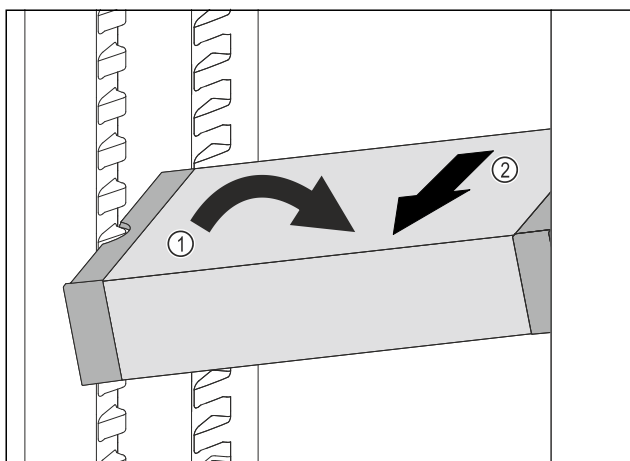

Fig. 201
- Set VarioSafe in refrigerator compartment at an angle. Fig. 201 (1)
- Take VarioSafe out to the front. Fig. 201 (2)